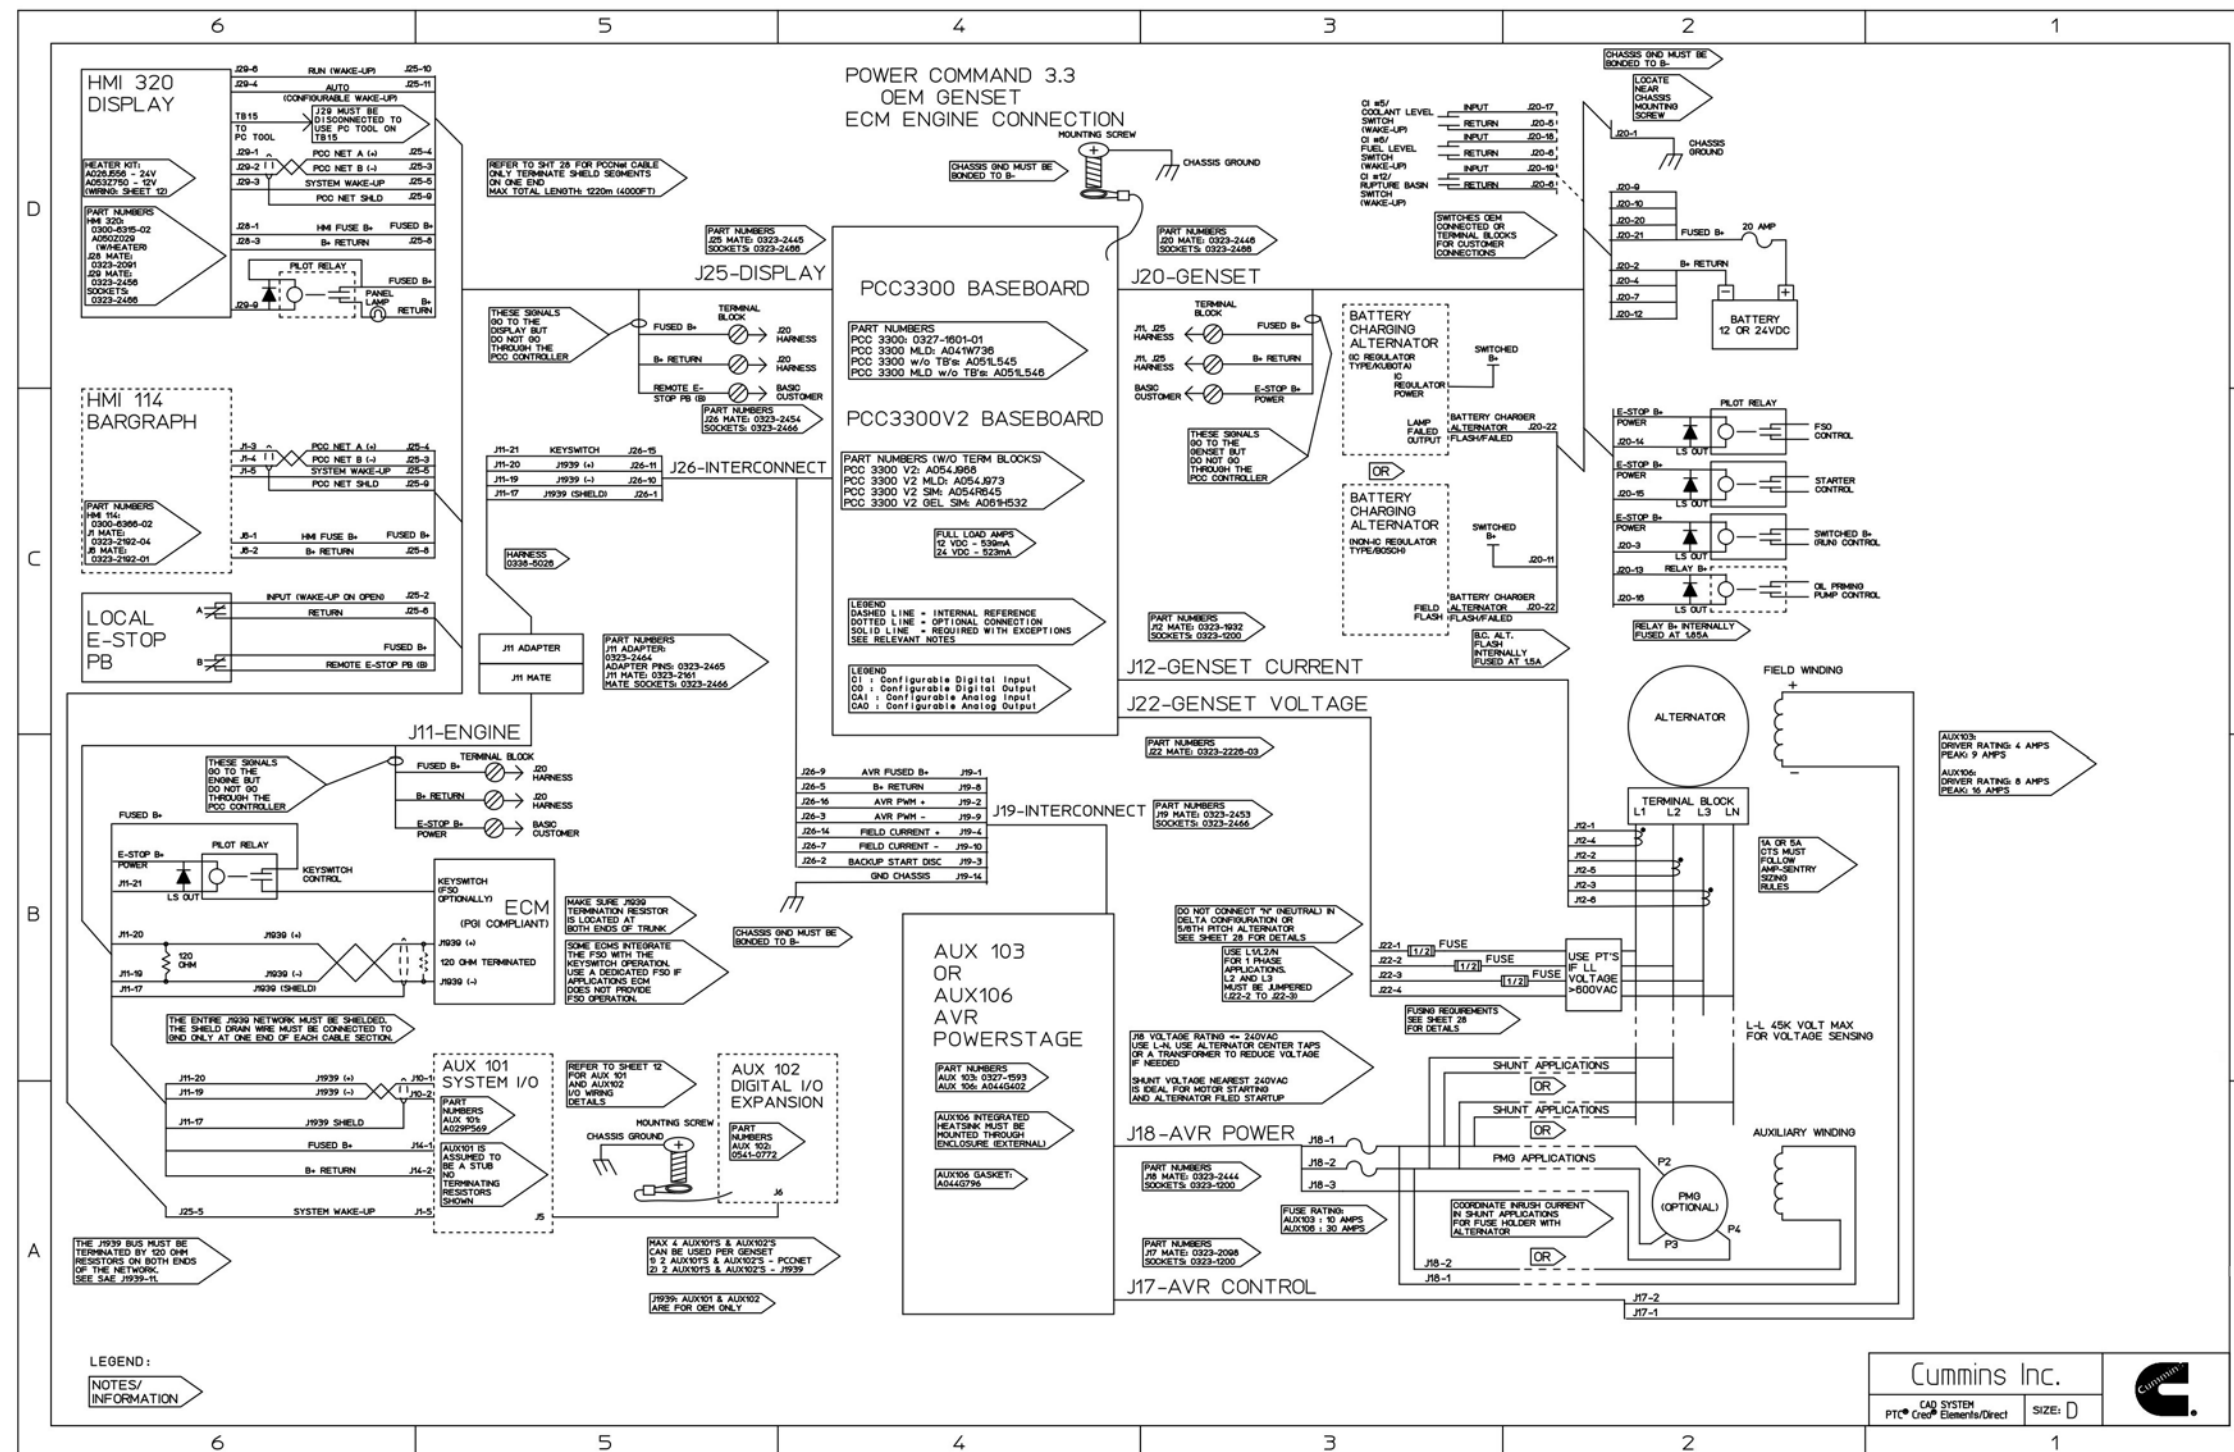

FIGURE 74. POWERCOMMAND 3.3 CONNECTIONS - ECM-BASED ENGINES
- Figure 74. PowerCommand 3.3 Connections - ECM-Based Engines 129